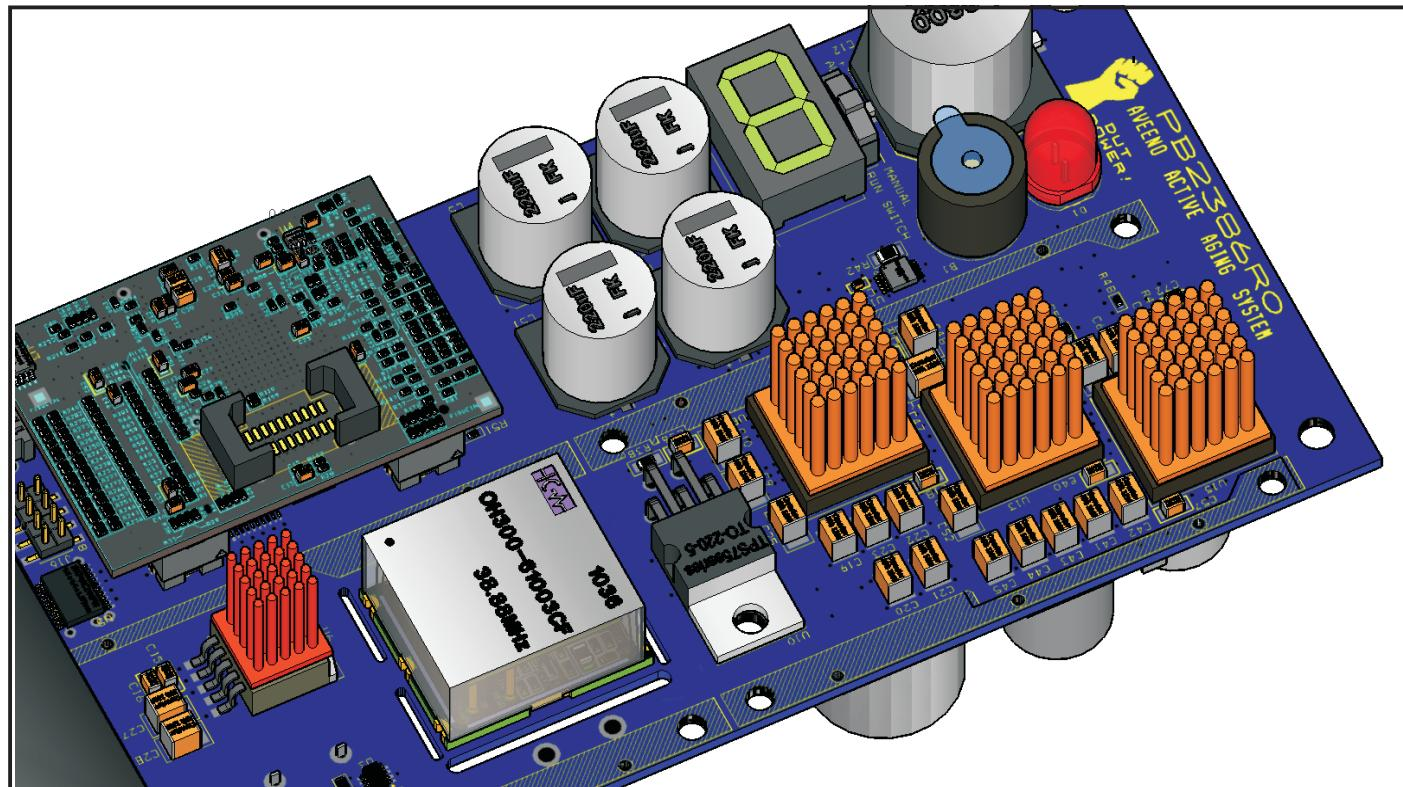

Figure: 17-01
12. Optionally a thermal "moat" can be created to prevent thermal energy transfers between the OCXO and board as seen in Figure 17-01. A thermal moat is a routed area around the OCXO and is very effective means to prevent losses from the oscillator while still allowing a top layer pour on the board to heat sink cool other electrical components.